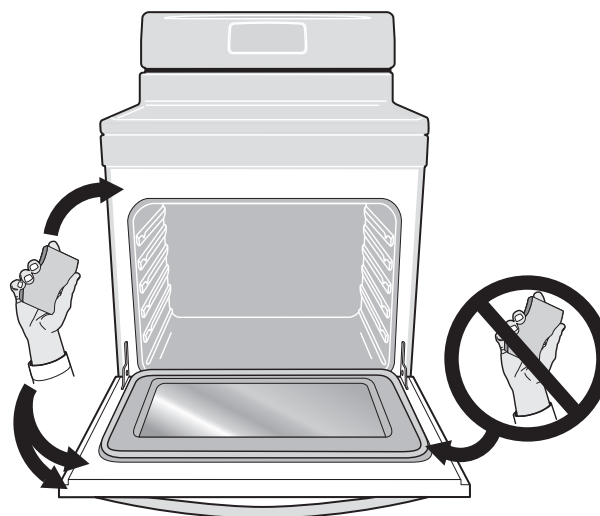

Fig. 6 Areas to clean and to avoid
- Do not use oven cleaners or oven protective coatings in or around any part of the oven interior. Clean any soil from the oven frame, the door liner outside the oven door gasket and the small area at the front center of the oven bottom (Figure 6). These areas heat sufficiently to burn soil on. Clean using soap and water prior to starting Self Clean.